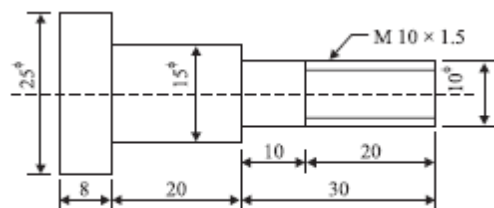

Fig. 5.25
- 4 (a) Estimate the machining time required to produce one piece of the component BT2 shown in Fig. 5.25 starting from  $\phi$  25 mm bar. The following data is available.